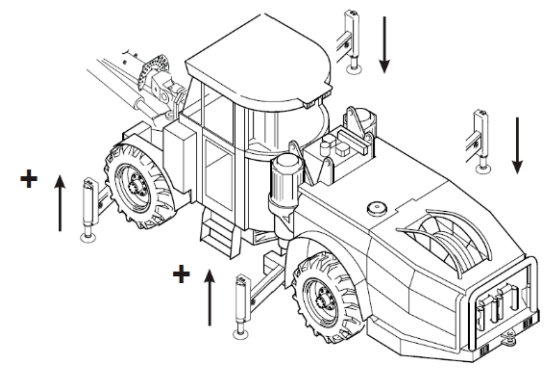

fig. 1
- **Step 14.** using the same locations as used in step 2, lean the machine over to the right-hand side approx. 2 degrees as per the manual klino/level (see fig. 1) and confirm the value in configuration screen increases. If value decreases or is showing a negative value with the machine leaning to the right, the value will have to be changed to either a + or – coefficient depending on what is already set. i.e. If the coefficient is set as a -0.005 it will need to be changed to +0.005, as shown in fig. 2.